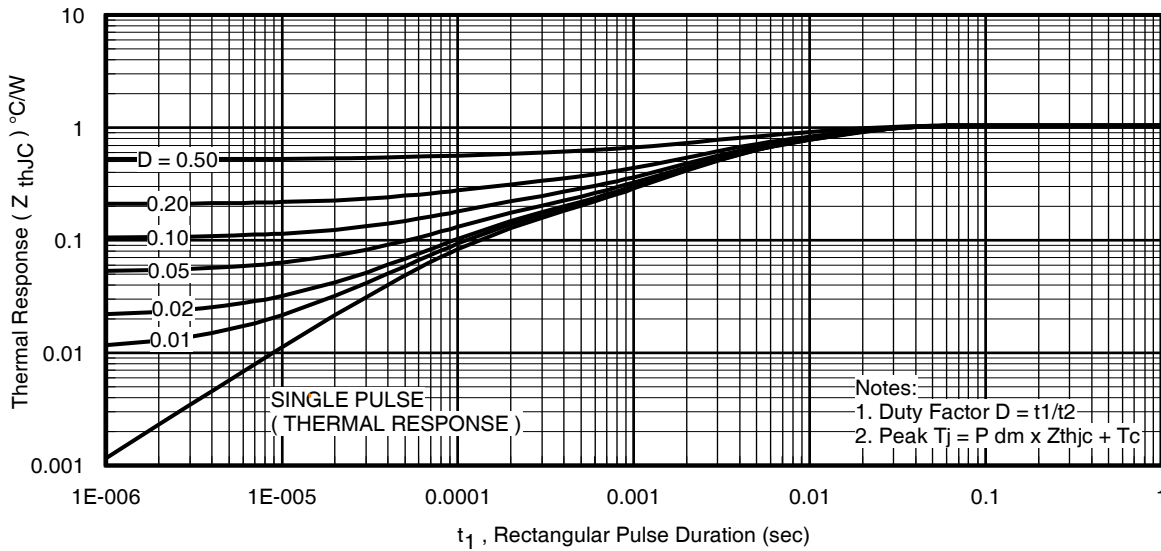

Fig 14. Maximum Effective Transient Thermal Impedance, Junction-to-Case
Notes on Repetitive Avalanche Curves, Figures 14, 15:
7.  $\Delta T$  = Allowable rise in junction temperature, not to exceed  $T_{jmax}$  (assumed as  $25^\circ\text{C}$  in Figure 14, 15).